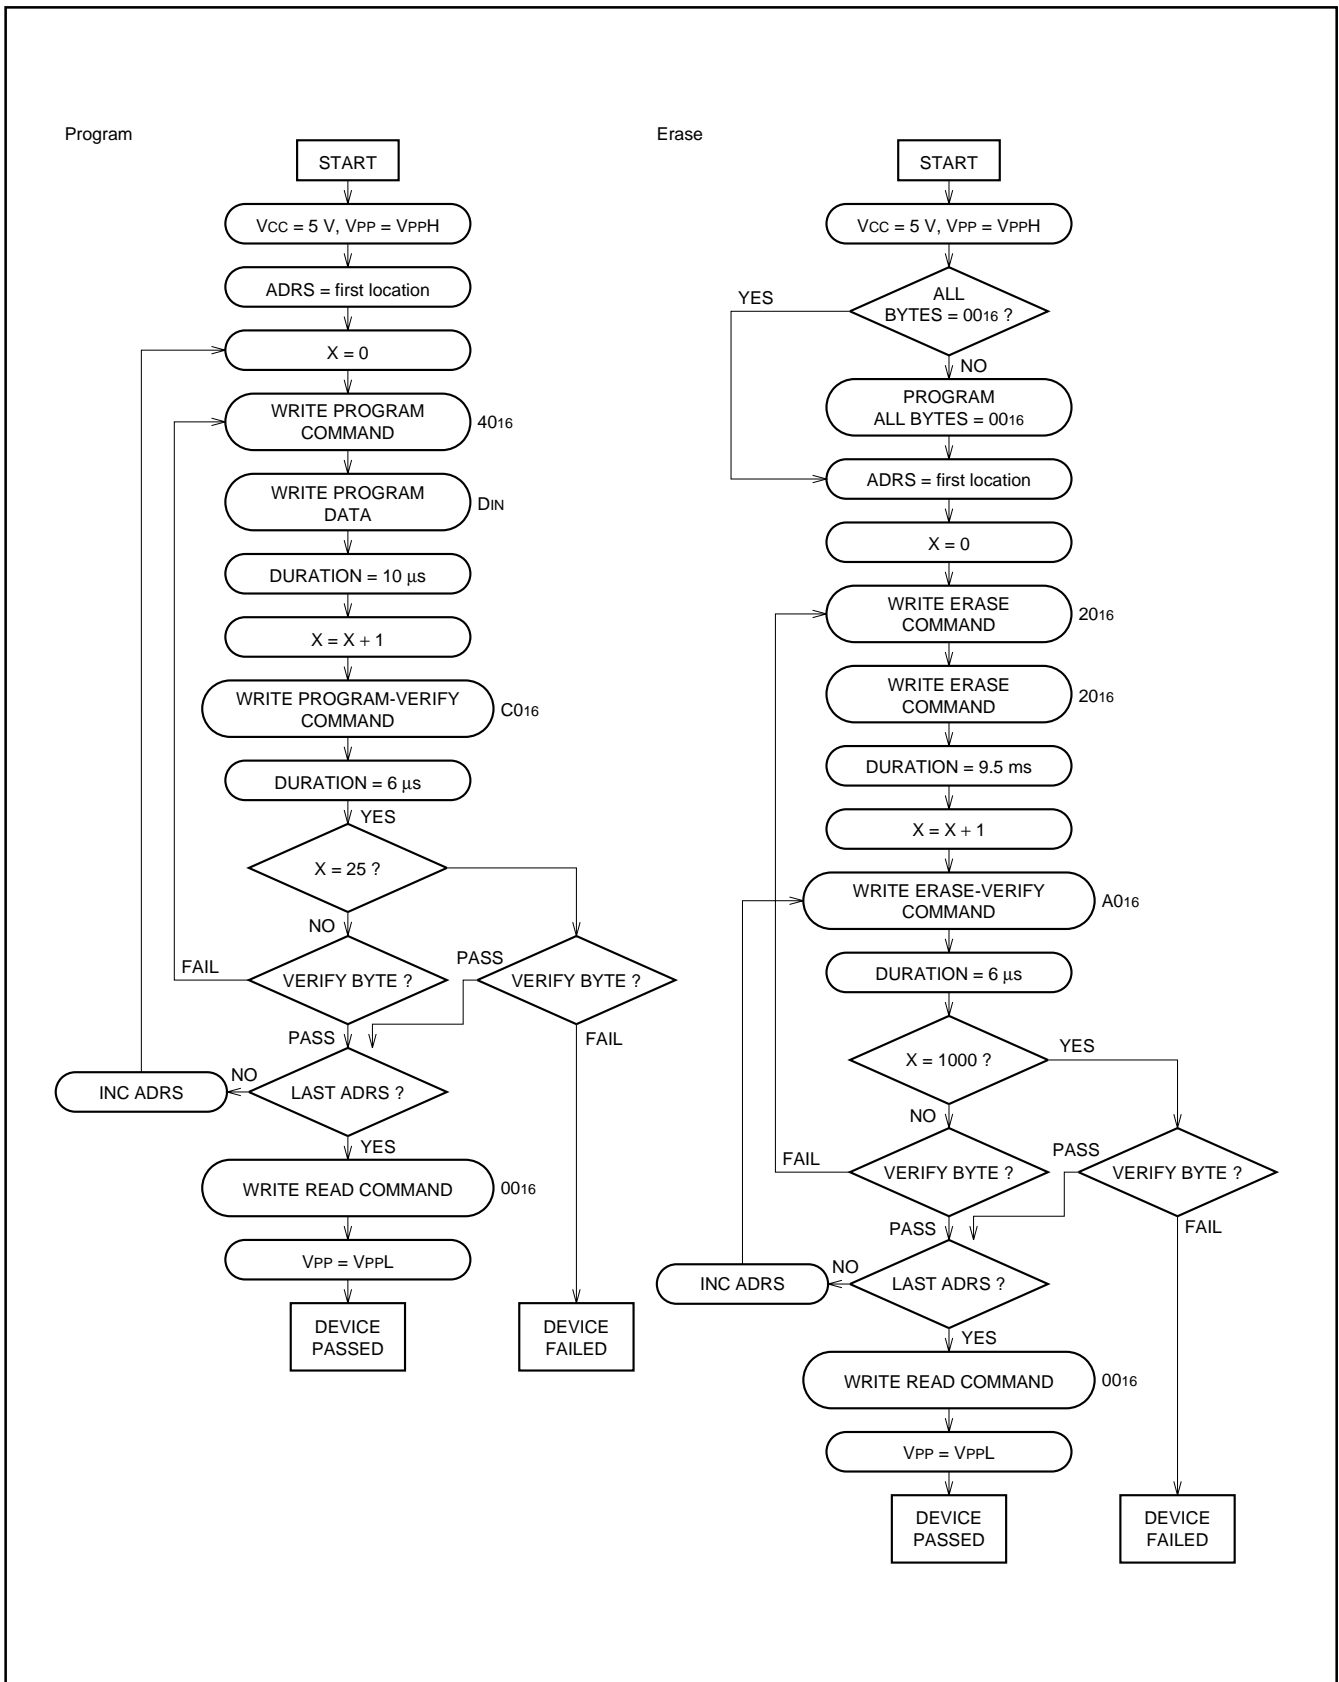

Fig. 92 Programming/Erasing algorithm flow chart
**Note:** A programming operation is not completed by executing the program command once. Always be sure to execute a program verify command after executing the program command. When the failure is found in this verification, the user must repeatedly execute the program command until the pass. Refer to Figure 92 for the programming flowchart.
**Note:** An erase operation is not completed by executing the erase command once. Always be sure to execute an erase verify command after executing the erase command. When the failure is found in this verification, the user must repeatedly execute the erase command until the pass. Refer to Figure 92 for the erase flowchart.
**Note :** A programming operation is not completed by executing the program command once. Always be sure to execute a program verify command after executing the program command. When the failure is found in the verification, the user must repeatedly execute the program command until the pass in the verification. Refer to Figure 92 for the programming flowchart.